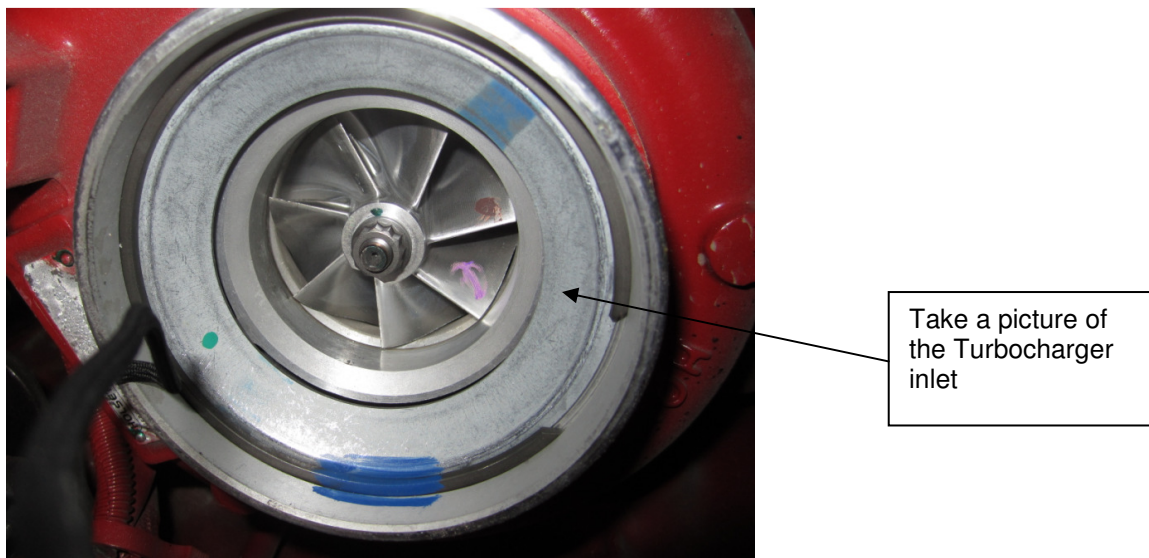

Figure 20: Turbocharger Inlet
34. Immediately take a picture of the exposed turbo intake and then cover the turbo intake for cleanliness and protection. Submit the photo along with the completed Air Filter Checklist to the New Flyer RPSM. See Figure 20.